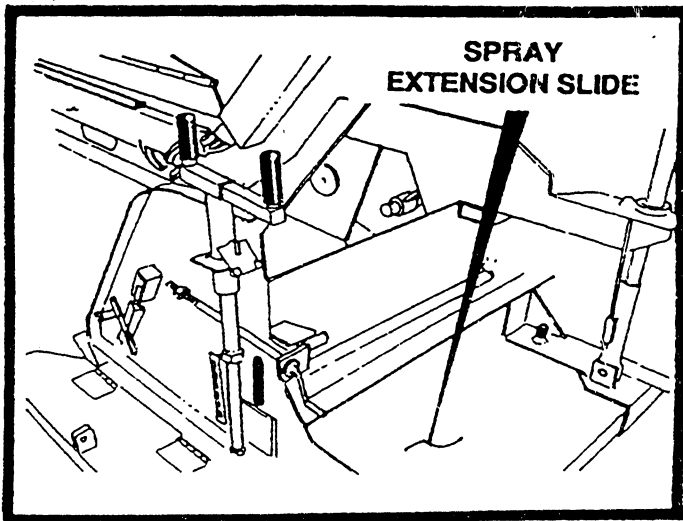

FIGURE 36
7. Grease extension slide with multi-purpose grease or spray with fuel oil at points shown. See figure 36.